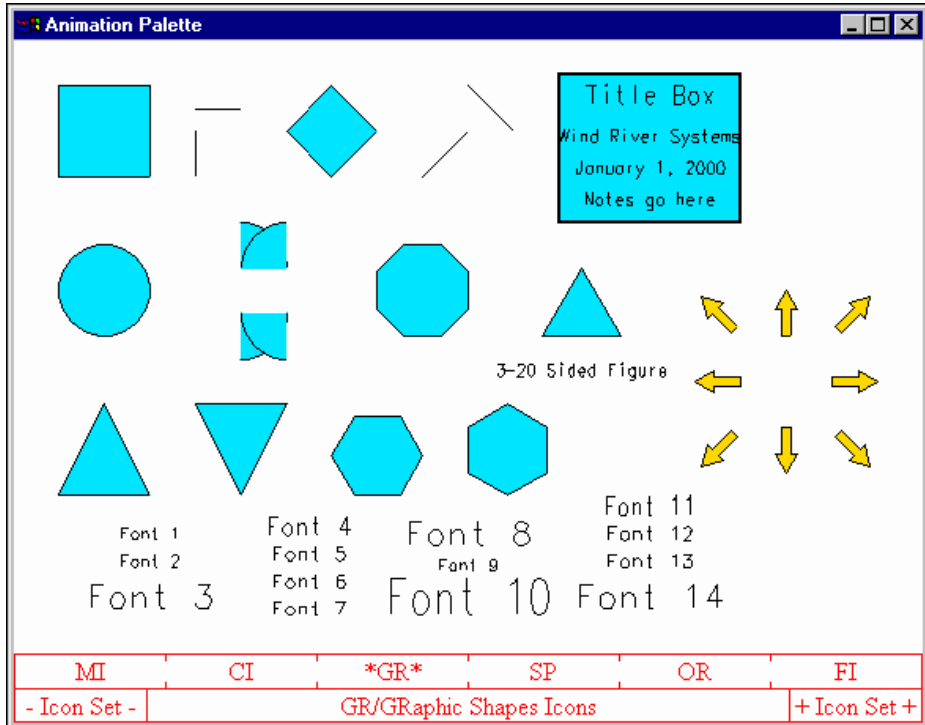

Figure 2-8. Graphic Shapes Icons (Palette GR)
- Graphic Shapes Icons (Palette GR)**—Figure 2-8 shows a palette of general drawing icons that includes a square, lines, a circle and circle segments, arrows, triangles, an octagon, hexagons, various fonts of text, and a title box.